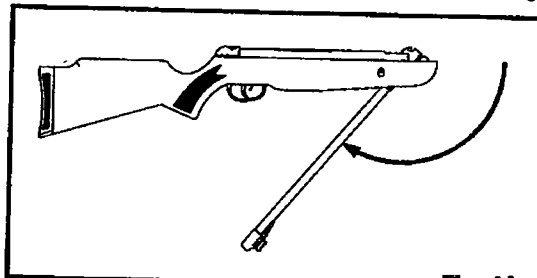

Fig. 4A
- Pull the barrel downward until it stops (Fig. 4A). Do not pull past this point and do not use excessive force or speed